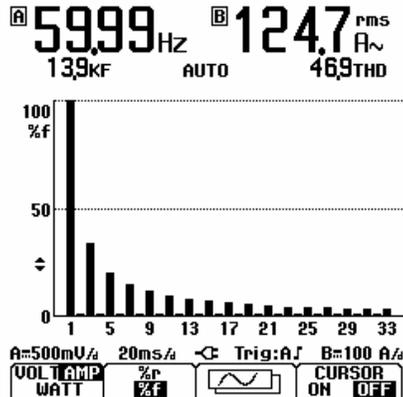

Figure 3-6. Bargraph Harmonics Ampere
7. Check if the bargraphs of AMP HARMONICS look like the the ones in Figure 3-6.